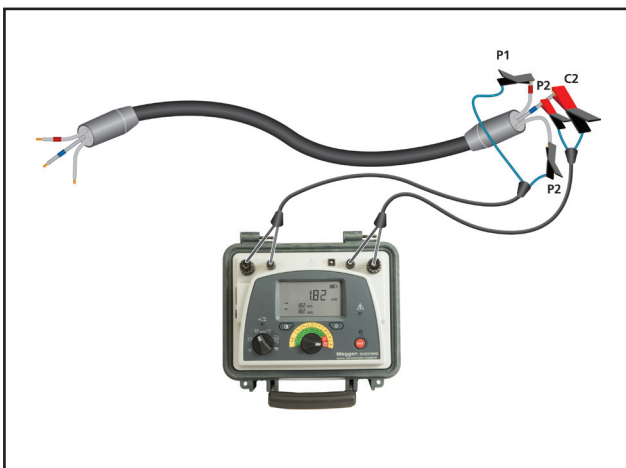

Fig 12: P1 connected to another core on the same end of the multi-core cable
Step 3: Connect the potential lead P1 to the other core. In Fig 12 it is the core with the red marker.